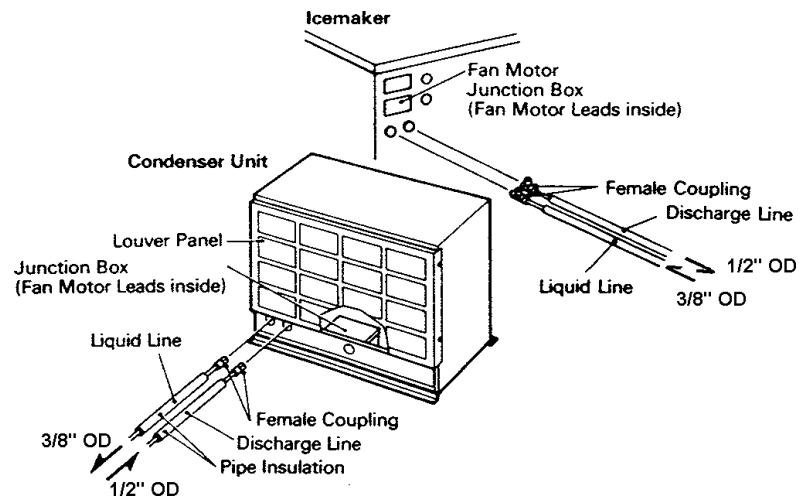

Fig. 7
- 3) Install enough length of two copper tubings provided with Aeroquip couplings between the icemaker and the condenser unit. The two copper tubings should be insulated separately. See Fig. 7.